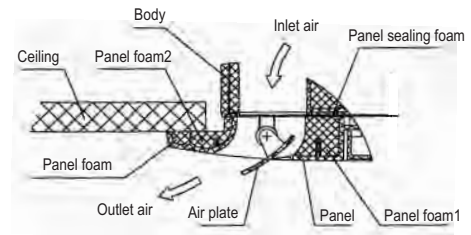
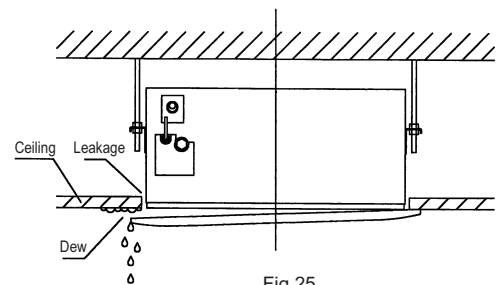
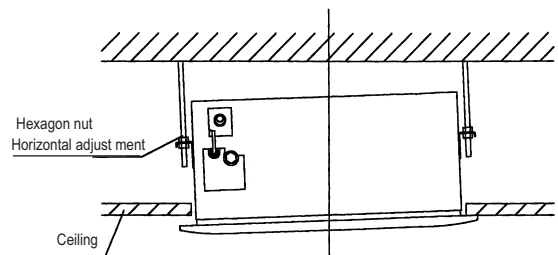

Fig.24
Fig.25
Fig.26
- f. Keep fastening the screws under the panel hooks, until the thickness of the sponge between the body and the panel's outlet has been reduced to about 4~6mm. The edge of the panel should contact with the ceiling well. (Refer to Fig.24) Malfunction described in Fig.25 can be caused by inappropriate tightness the screw. If the gap between the panel and ceiling still exists after fastening the screws, the height of the indoor unit should be modified again. You can modify the height of the indoor unit through the openings on the panel's four corners, if the lift of the indoor unit and the drainpipe is not influenced (refer to Fig.26-right).
- (3) Hang the air-in grid to the panel, then connect the lead terminator of the swing motor and that of the control box with corresponding terminators on the body respectively.
- (4) Relocate the air-in grid in the procedure of reversed order, install the air-in grid.